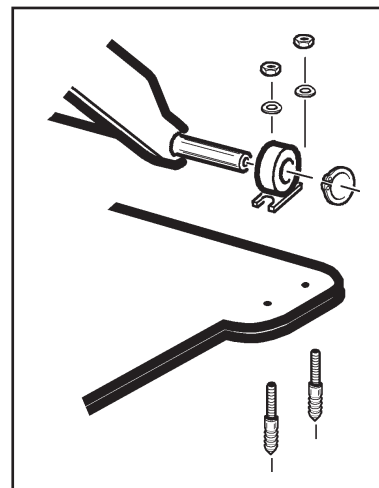

Fig. 14
- If the lift is equipped with additional steel plate (see accessories), this shall be fixed to ground together with the lift by means of the holes and the anchor bolts, both standard and additional. (fig. 14).